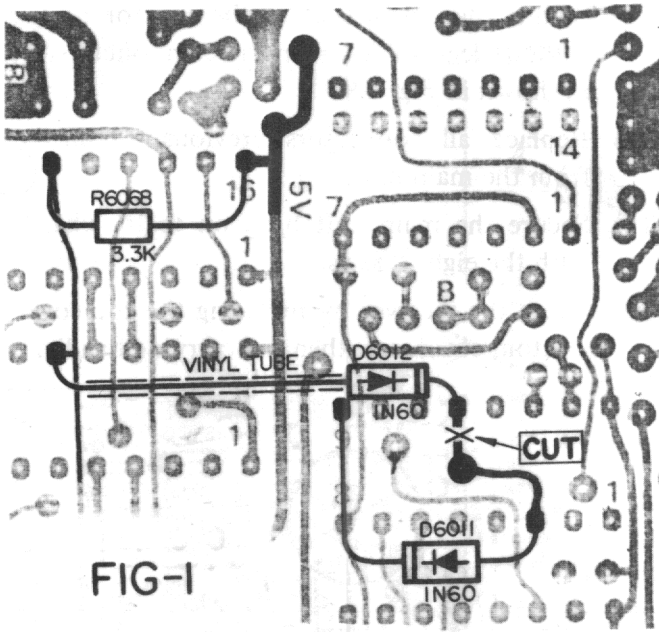

Fig. 2-10
1. Cut the upper pattern on PB-2175, as shown in Figure 2-10.
2. Install and solder the two 1N60 diodes and the 3.3 Kohm resistor as shown in Figure 2-10.